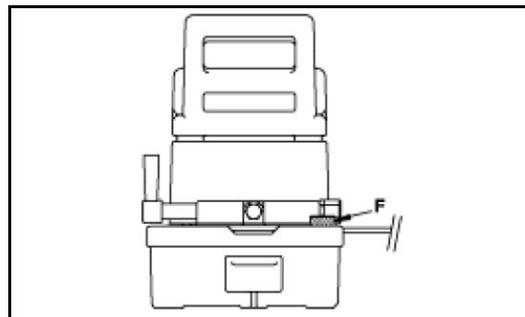

Figure 9
7.2 Changing the Oil (Figure 9)